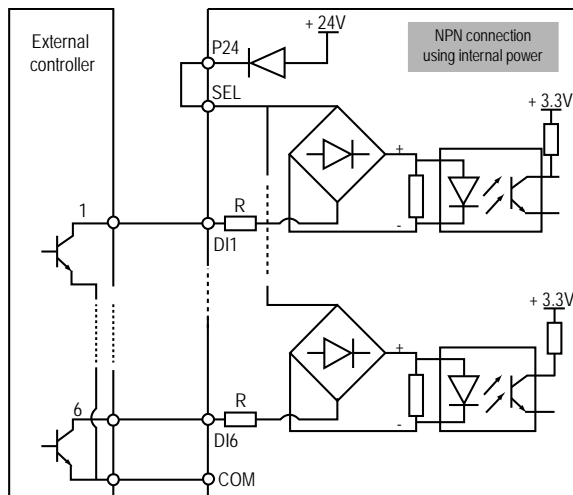

Figure 4-11 NPN signal input connection when using internal 24V power
3. If the inverter's internal 24V power supply is used, the common emitter output connection of the NPN transistor in the external controller is as shown in Figure 4-11.